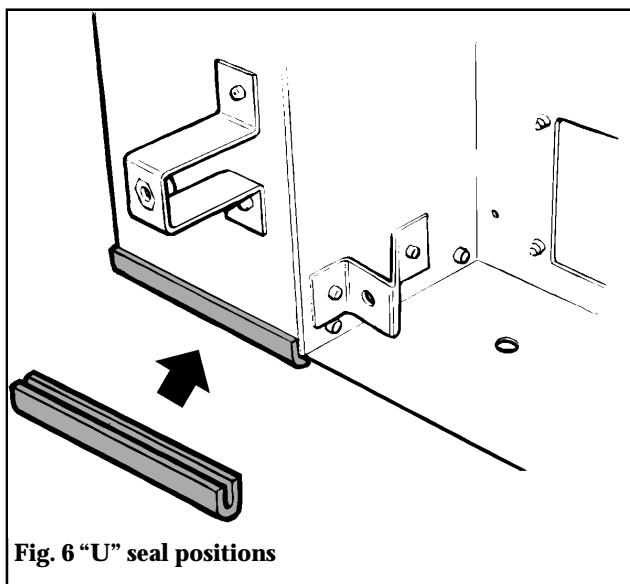

Fig. 6 "U" seal positions
**6.3** Fit the two small "U" section seals to the bottom edges of the convection box side flanges (see fig.6).